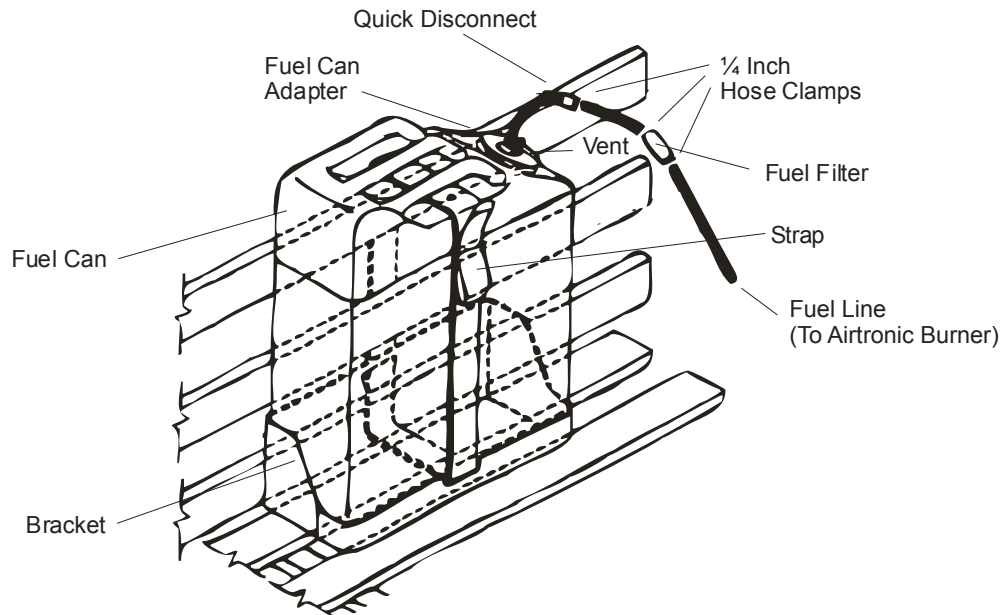

Figure 2-2. Fuel Can Installation
(2) **Step 2.** Place a fuel can, filled with appropriate fuel (table 1-3), (DO NOT fill can while in HMMWV) in the bracket and secure as shown in figure 2-2. Run the securing strap in back of the can and in back of the boards of the troop seat, go through fuel can handle. DO NOT run strap over the top of the can handles. Fasten the strap and tighten securely.